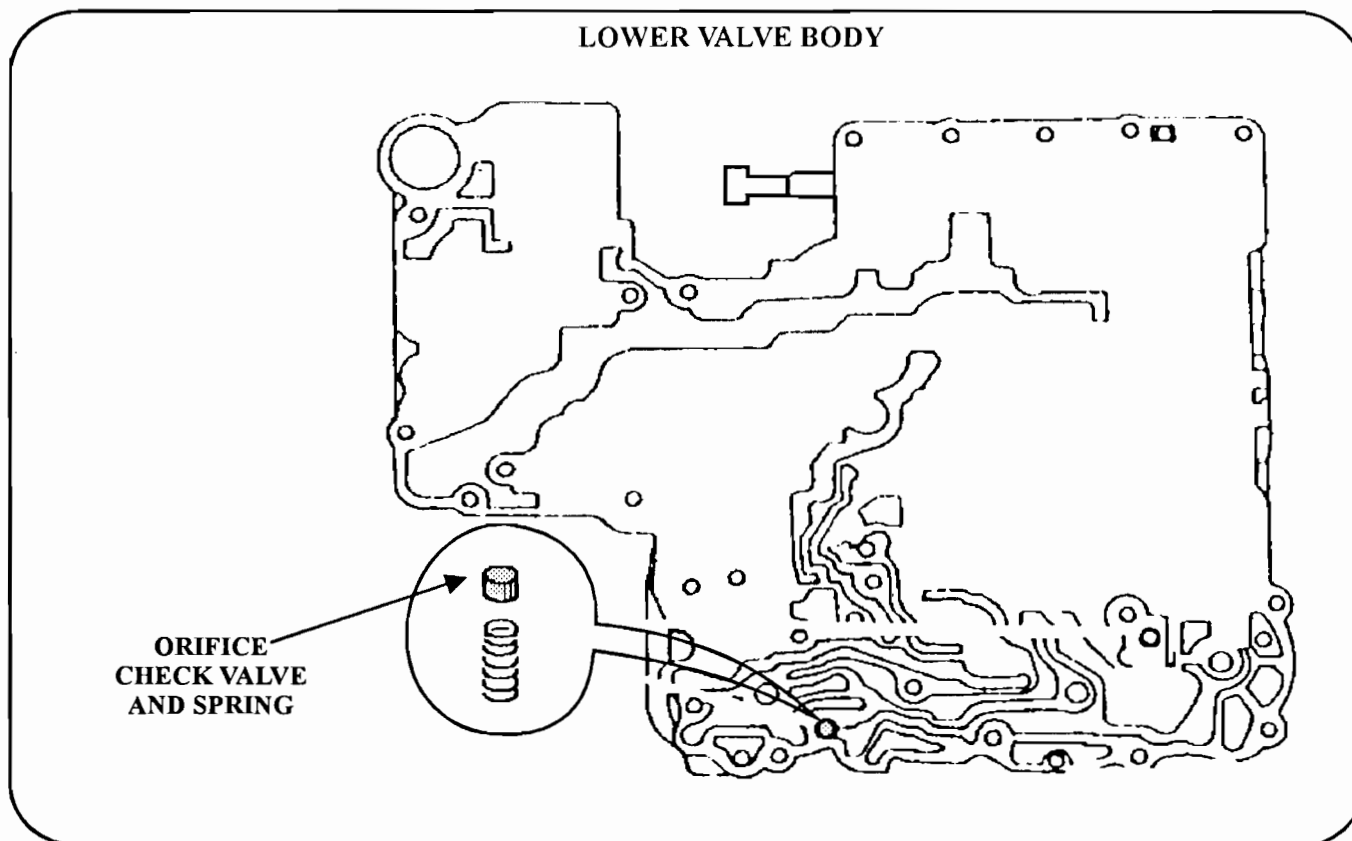

Figure 54
**CAUSE:** This complaint may be caused by a worn and broken Orifice Check Valve, which is located in the lower valve body (to figure 54). When wear occurs in the Orifice Check Valve, it may break, causing pieces of the check valve to become lodged in the Accumulator Control Valve, (Refer to figure 55) which is located in the upper valve body section.